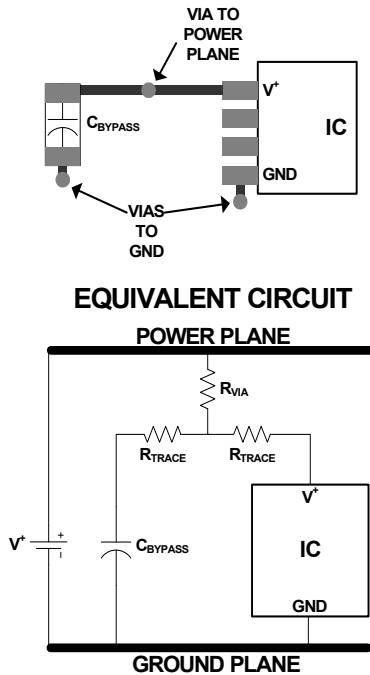
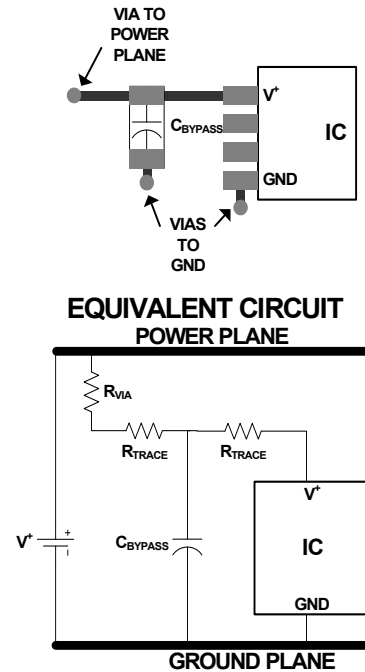

FIGURE 12. SUB-OPTIMAL BYPASS CAPACITOR LAYOUT
FIGURE 13. OPTIMAL (“T”) BYPASS CAPACITOR LAYOUT
- Ideally each supply should be bypassed to ground with a 0.1 μ F capacitor. Minimize trace length and vias to minimize inductance and maximize noise rejection. Figure 12 demonstrates a common but non-ideal PCB layout and its equivalent circuit. The additional trace resistance between the bypass capacitor and the power supply/IC reduces its effectiveness. Figure 13 demonstrates a better layout. In this case there is still series trace resistance (it is impossible to completely eliminate it), but now it is being put to good use, as part of a “T” filter, attenuating supply noise before it gets to the IC, and reducing the amount of IC-generated noise that gets
injected into the supply. Follow the good supply bypassing rules shown in Figure 13 to the extent possible.